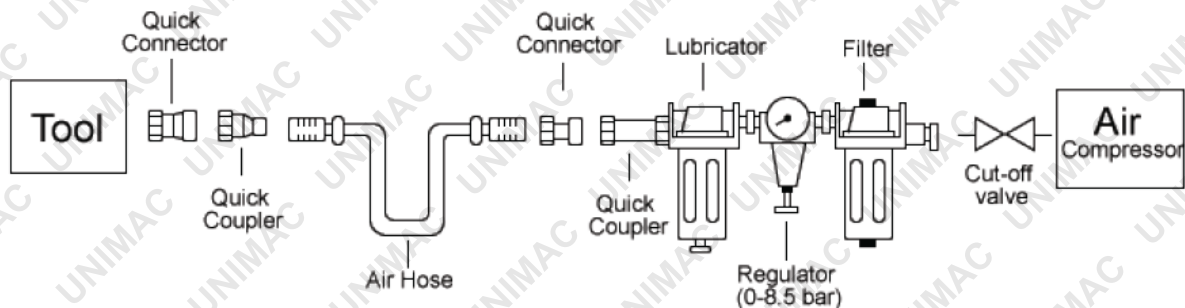

FIGURE 1
- A filter-regulator lubrication is required and should be located as close to the tool as possible (see Fig. 1).